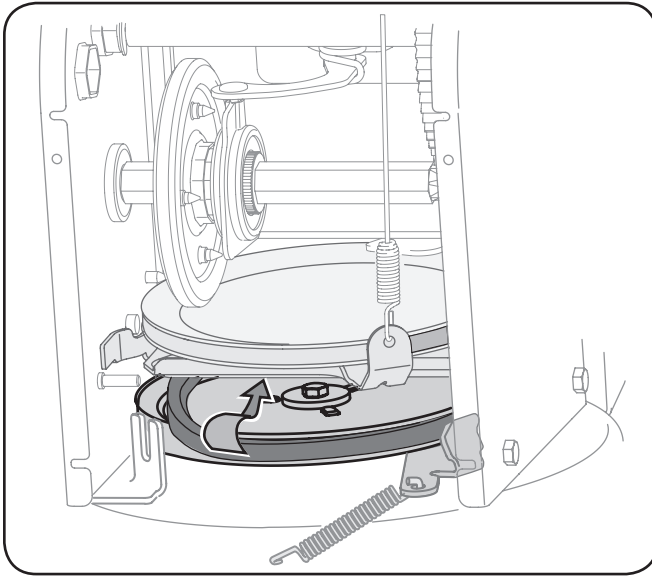

Figure 7-5
7. Remove the belt from around the auger pulley, and slip the belt between the support bracket and the auger pulley. See Figure 7-5.